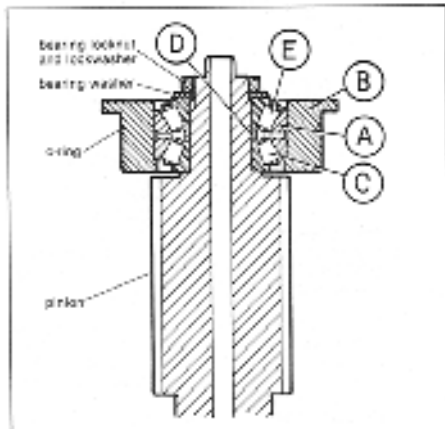

Fig. 31. Cross Section Showing Sequence of Assembly for Pinion Bearings.
3. See fig 31. Install bearing cup (A) into bearing container (B).